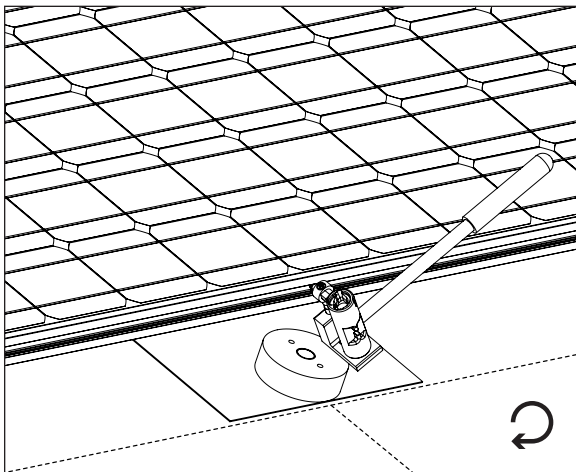

Figure 5.7C
2. Use the Zep Tool to rotate the Leveling Foot 90° *clockwise* until the base of the foot is parallel with the roof surface (Figure 5.7C). With the fastener appropriate to mounting method being utilized, secure the Leveling Foot to the mounting surface or attachment hardware.